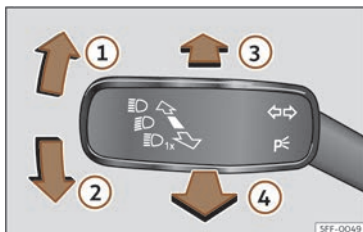

Fig. 100 Turn signal and main beam lever (depending on the version).
- From the base position, press the turn signal and main beam headlights lever forwards >>> Fig. 100 ③.
- **EITHER:** if main beam assist is on, pull the turn signal light and main beam headlights lever back >>> Fig. 100 ④.